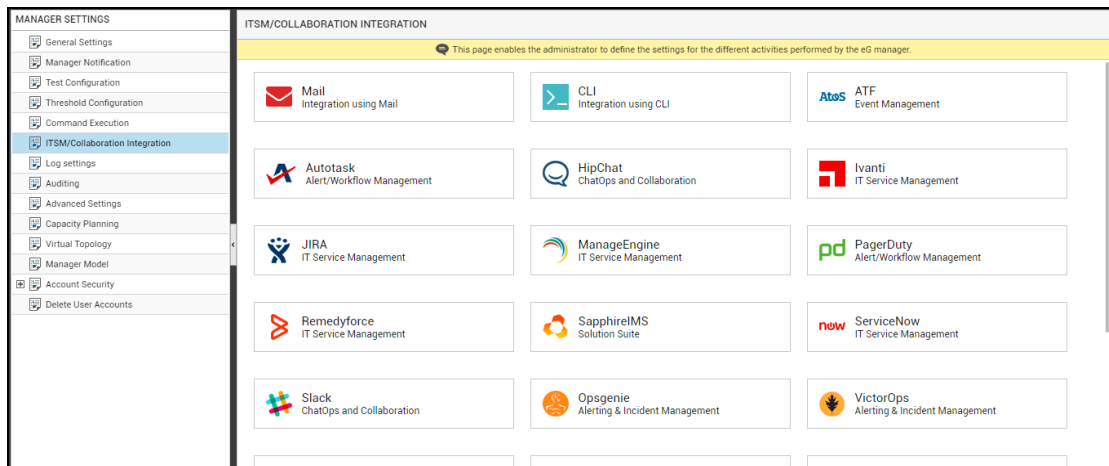
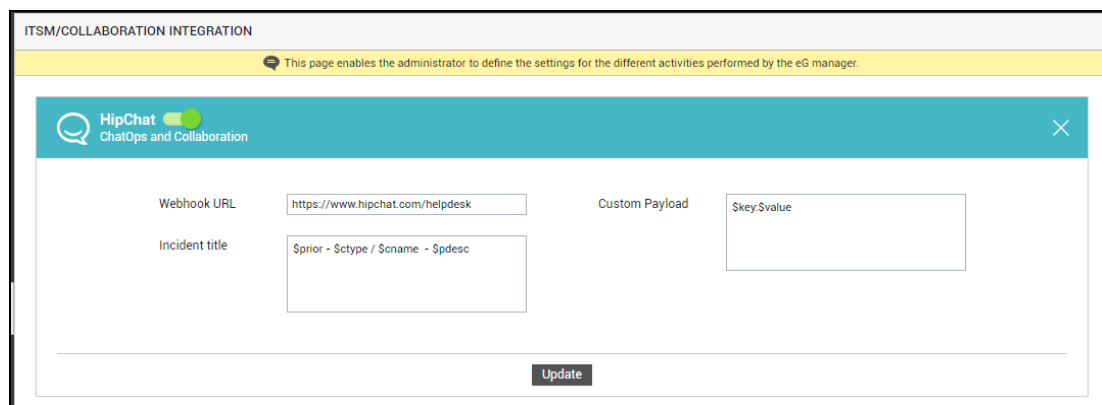

Figure 5.11: Viewing the ITSM/Collaboration tool options
Figure 5.12: Configuring integration with HipChat
3. Figure 5.11 will then appear. From the **MANAGER SETTINGS** tree in the left panel of Figure 5.11, select the **ITSM/Collaboration Integration** node. The third-party ITSM/Collaboration tools that eG Enterprise can integrate with will be listed in the right panel.
4. Now, click on the **HipChat** option in the right panel (see Figure 5.11). A **HipChat** section will now appear in the right panel (see Figure 5.12).
5. To enable integration with HipChat, first slide the **HipChat** slider in Figure 5.12 to the right.
6. Then, specify the following in Figure 5.12: